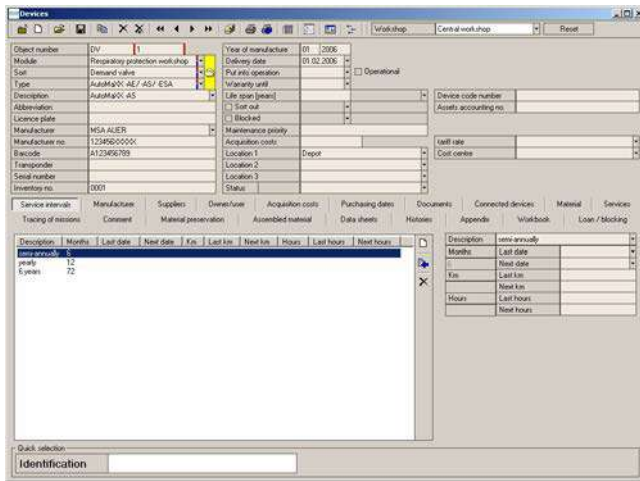

Fig. 68 Menu: Technical Services – Data card device intervals
- (1) Proceed as for *Intervals* [→ Fig. 68].
- (2) Select the material and then enter the last replacement date on the right-hand side.